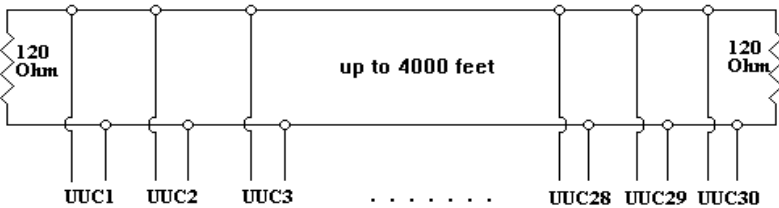
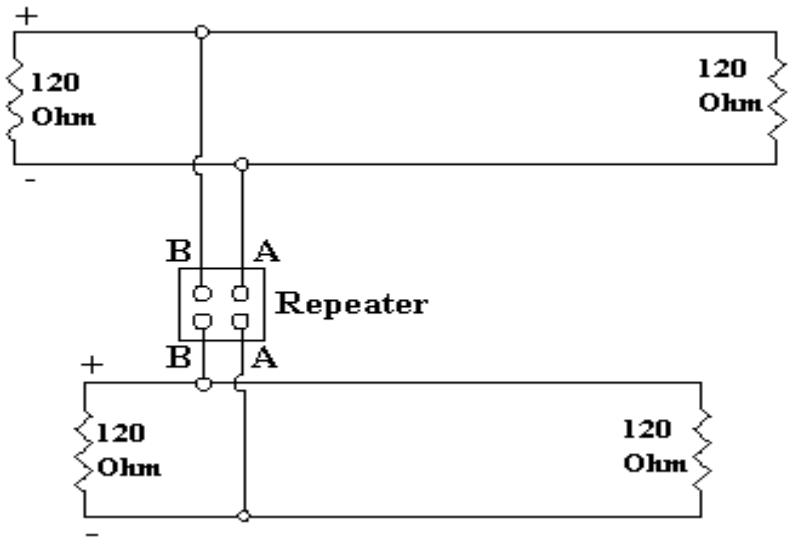
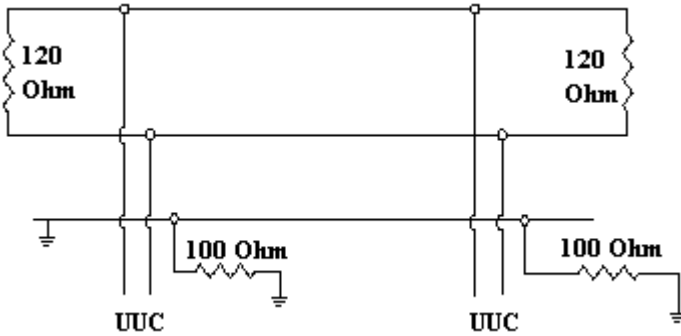
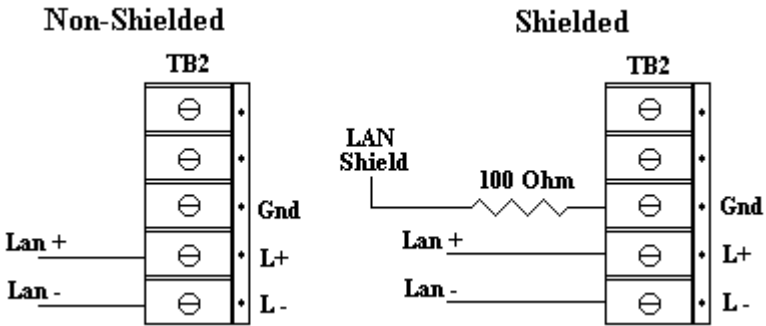

FIGURE 4
FIGURE 5
FIGURE 6
FIGURE 7
The unitary controller LAN operates at 9600 baud on a pair of wires using standard RS-485 drivers. A U-LAN up to 4000 (Figure 4) feet can be wired with a single telephone pair (24 AWG). A shielded pair is recommended. A U-LAN may consist of one or more segments with each segment limited to approximately 4000 feet and 30 controllers. Each segment should be point to point with 120 ohm termination resistors on each end. When considering wiring, it should be remembered that the LAN is extended from each controller to its thermostat(s).
An RS-485 Repeater should be used when more than 4000 feet is required, more than 30 unitary controllers are needed, or physical wiring considerations require a long branch run off the main point-to-point run (Figure 5). An opto-isolated RS-485 repeater should be used if the LAN extends outside of a building where lightning could be a problem. In addition to providing the repeater function, the repeaters also provide for signal conditioning (biasing) and over-voltage/transient protection. The repeater uses the +15VDC output from TB8 if it is available.
When a shielded pair is used, it should be connected to ground at one location (usually at the Field Commander). If the shield is to be connected at each unitary controller, a 100 ohm resistor should be used to connect the shield to ground at each controller (Figure 6). This should avoid problems associated with ground differentials over the LAN.
- 7) Remove TB2 from the controller and connect the U-LAN wires to the + and - pins of the connector block. Be sure to observe polarity (see Figure 7). Up to 30 unitary controllers can be connected on a U-LAN, with a maximum wire length of 4000 feet using 24 gauge wire. A 120 ohm terminating resistor should be installed on each end of the U-LAN (see Figure 4). If more than 4000 feet is required, or more than 30 unitary controllers need to be connected to one LAN, an RS-485 Repeater must be used (see Figure 5). If the U-LAN extends outside the building where lightning could be a problem, an opto-isolated RS-485 repeater should be used. If a shielded pair is used, it should be grounded at one location on the LAN (usually at the Field Commander). If the shield is to be connected at each controller, it will be necessary to connect the shield to ground through a 100 ohm resistor at each controller (see Figures 6 and 7).